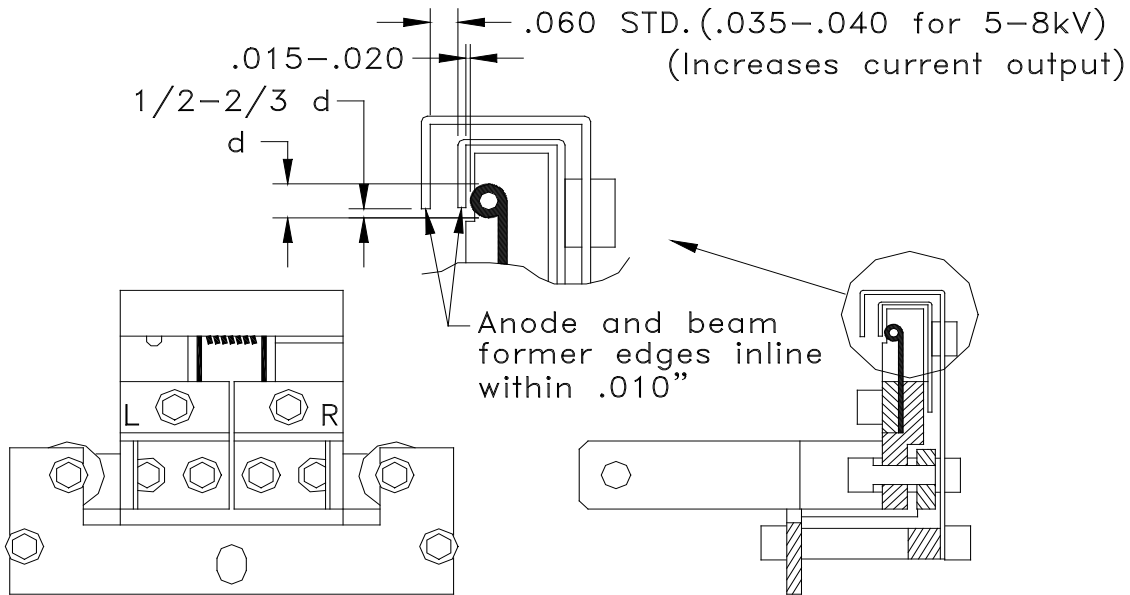

Figure 2-A Filament Location
If the emitter is disassembled, refer to 273-0150-3 pdf drawing and figure 2-A. Ninety percent of system problems during production relate to the EB-source emitter, so pay close attention to its assembly. It is of the utmost importance to trouble free runs.
- 11** The relative position of the anode plate, the beam former, and the filament must be precise to .005" (Refer to Figure 2-A). The filament (coils forward!) normally projects 1/2 of its diameter or slightly more (2/3) below the beam former. These dimensions are only a starting point. The clearance between these three elements should be judged based on experienced performance. The source will only work properly if these clearances are properly maintained.
- 19** Install the new filament, making sure that the filament orientation is correct (see figure 2-A). Using new #6 x 1/4" screws, loosely mount the filament clamps in place. Gently tap the emitter assembly on a flat surface to settle the filament into place. Slide the filament clamp on the right cathode block until it is flush with the right side of the block. Snug the right #6 x 1/4" screws. Gently push the left hand clamp into place. NOTE: Sliding this clamp can cause the filament to warp or bow. Snug the left #6 x 1/4" screws. Now check the alignment of the filament to the beam former.
- 23 Push down on the Anode and tighten the last two #6 x 1/4" screws. Check the alignment of the Anode to the beam former (see figure 2-A). The rebuilt emitter assembly is now ready to be installed back in the EB-source.